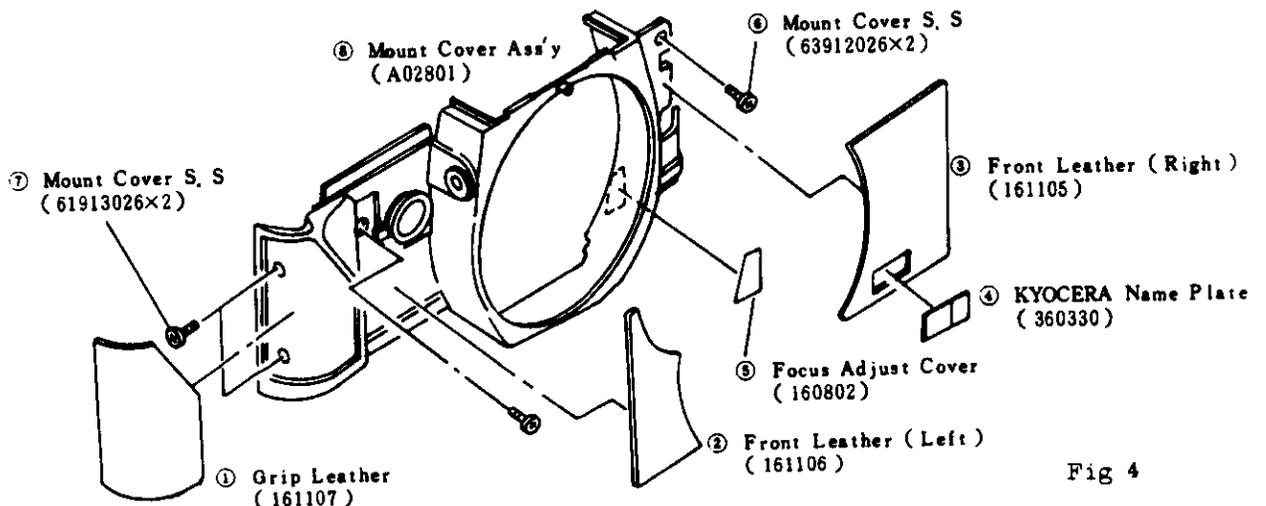

Fig 4
(3) Mount Cover Ass'y:
- a) Remove the respective parts ①~⑦ shown in (Fig 4) in numerical order.